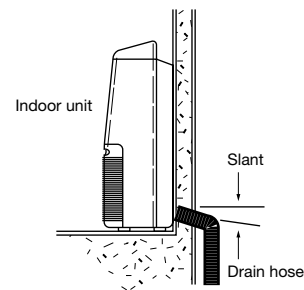

Figure 12
- To conveniently drain the system, the drain hose must slant downward, with a slope of at least 1 : 50 to prevent leakage. Figure 12 shows the unit in the floor mounted position.